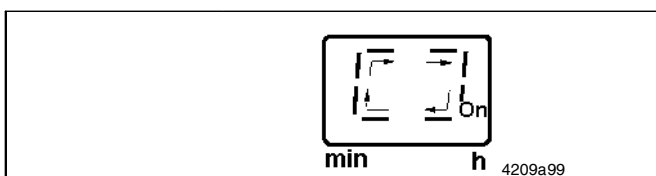

Fig. 20 Green circulating illuminated segment (clockwise),
- While the pump motor is running, in the display window of the membrane keypad there appears a circulating light segment (fig. 20).